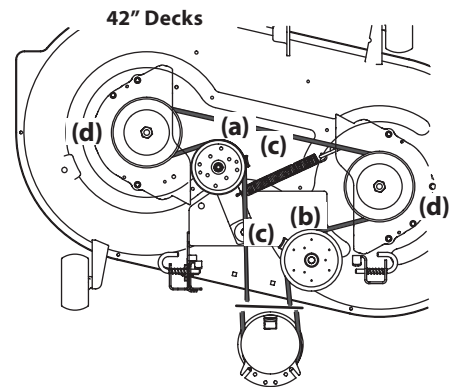
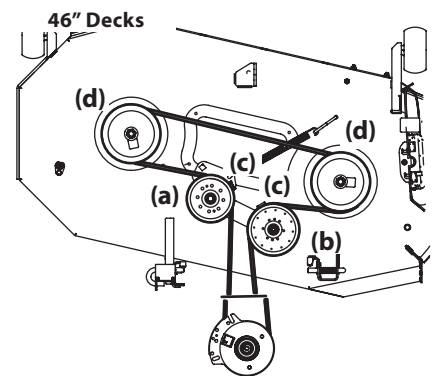
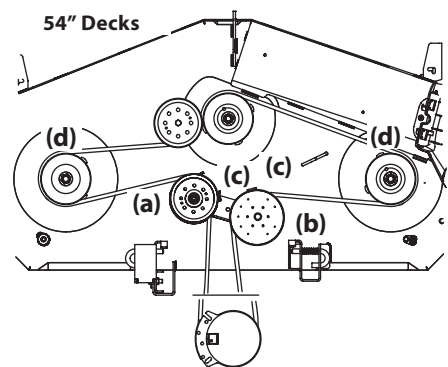

Figure 4-14
Figure 4-15
Figure 4-16
2. Loosen, but do not remove the hardware on the right (a) and left idler pulley (b). Refer to Figure 4-14 for 42" decks, Figure 4-15 for 46" decks and Figure 4-16 for 54" decks.